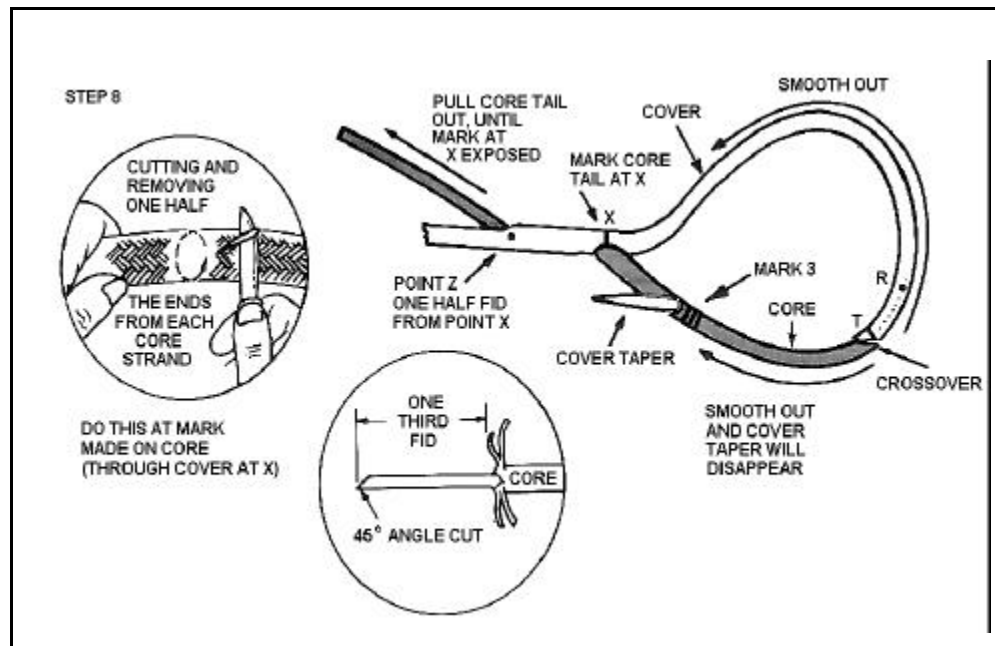

Figure 12-59. Marking the Reduced Volume Tail Core
- STEP 8 -- Marking the reduced volume tail core.** Alternately pull on core tail at point Z, then pull on tapered cover at Mark 3. Tighten the crossover until it is about equal to the diameter of the line (see Figure 12-59). Smooth out cover of eye completely, from crossover at point T toward point X, to get all slack out of eye area. MARK CORE TAIL THROUGH COVER AT POINT X. Pull core tail out until mark on core just made is exposed at point Z. Reduce core volume at this point by cutting and removing one strand at each group, progressing around the circumference of the rope (see Figure 12-59 insert). Measure one-third fid length from start of reduction cuts toward end and mark. Cut off remaining tail at this point. Make cut on a 45° angle to prevent a blunt end (see insert). With one hand, hold crossover--Mark T. Smooth cover section of eye out firmly and completely from crossover toward X; tapered core tail should disappear into cover at point Z. Smooth out core section from crossover towards Mark 3 and cover taper will disappear into core.